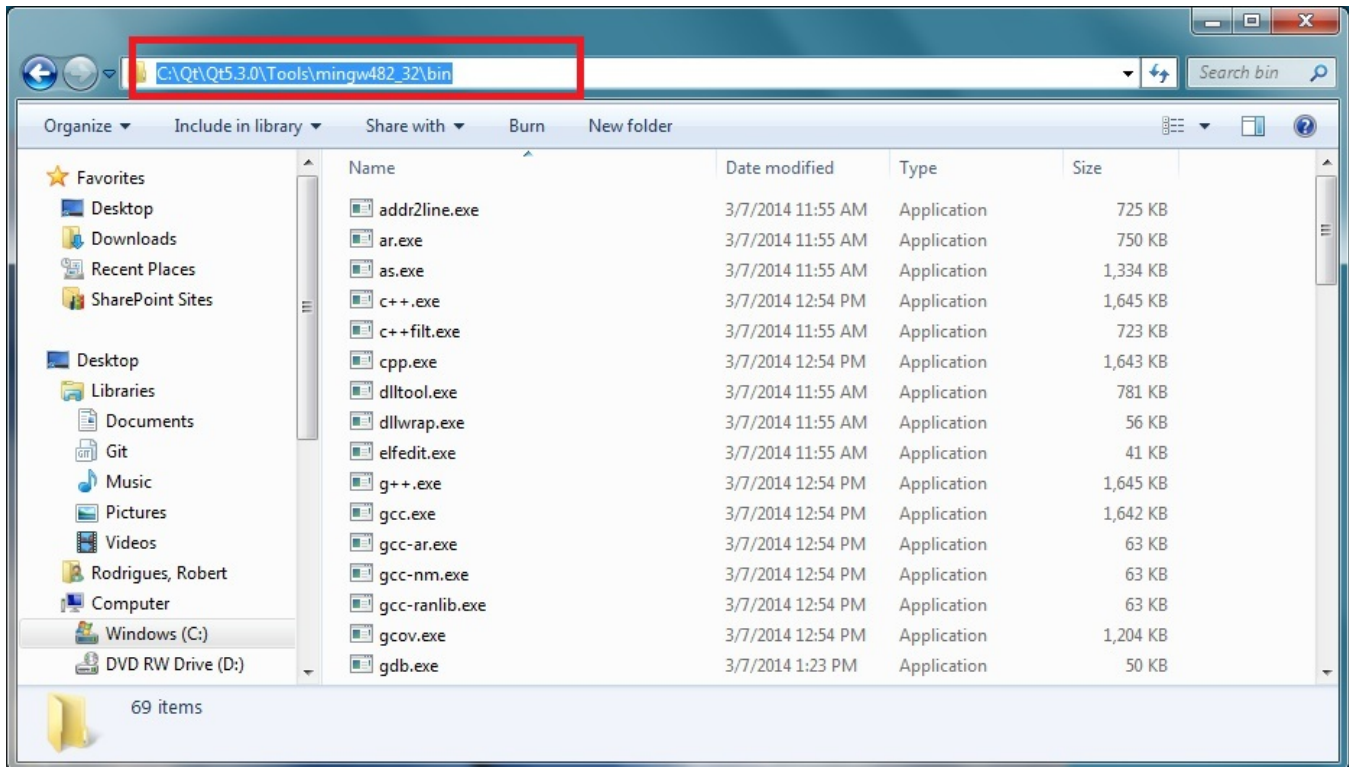

Figure 4-8. Finding the MinGW Installation Path
- Using Windows Explorer, navigate to the Qt installation location and find the MinGW binary location. Copy the path as shown in Figure 4-8.